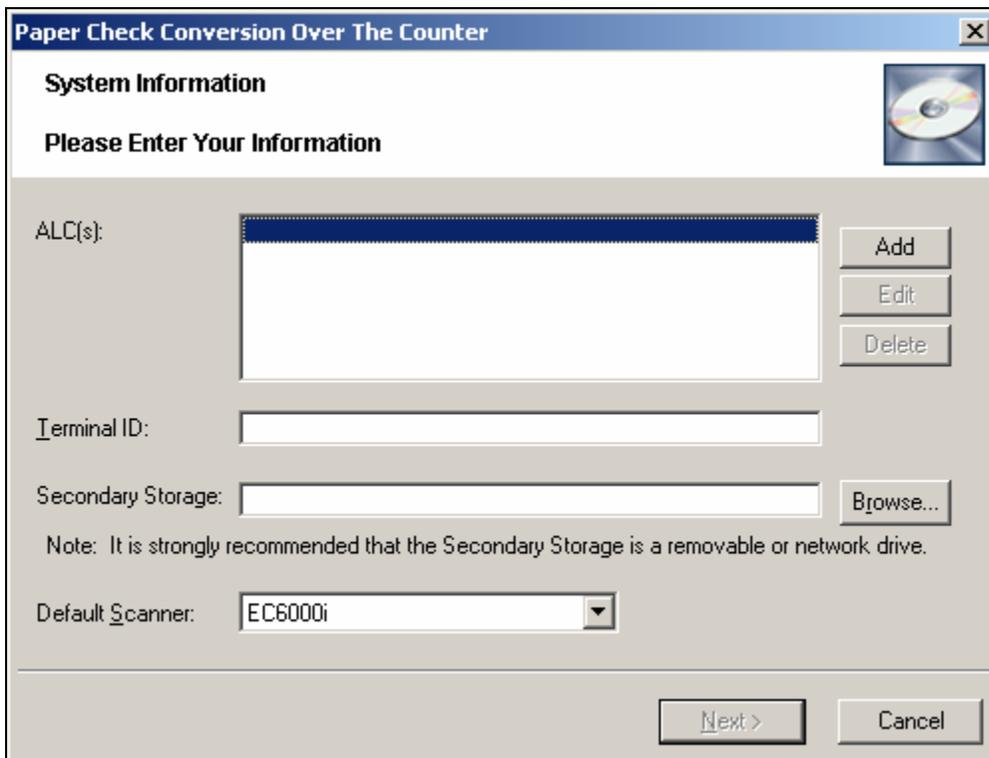

Figure 2.9
3. The PCC OTC System Information screen will then appear.(Figure 2.9)